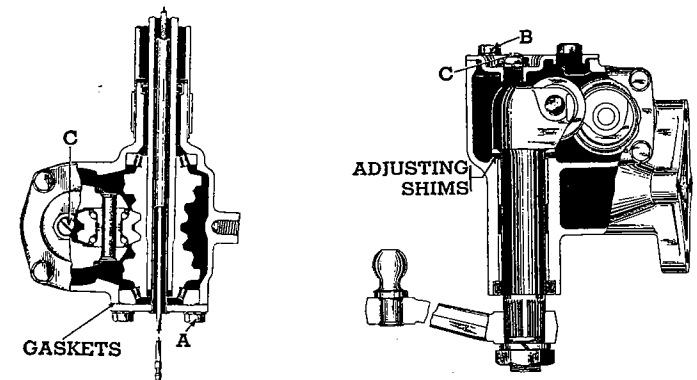

Fig. 45—Steering Gear is of the Integral Housing Type. Wormshaft Bearings and Roller Mesh Should be Adjusted to a Slight Drag as Outlined in Text
**A—Up and Down Play**—Turn steering wheel to either stop then back up  $\frac{1}{8}$  turn. Loosen the worm cover screws "A," Fig. 45, about  $\frac{1}{8}$  inch. Remove one thin gasket, being careful not to mutilate the others.
**B—Roller Shaft End Play**—Turn steering wheel to either stop then back up  $\frac{1}{8}$  turn. Grip hub of roller shaft lever, Fig. 45, and check end play by feel. Adjust to remove all end play by means of the roller shaft adjusting screw "C."